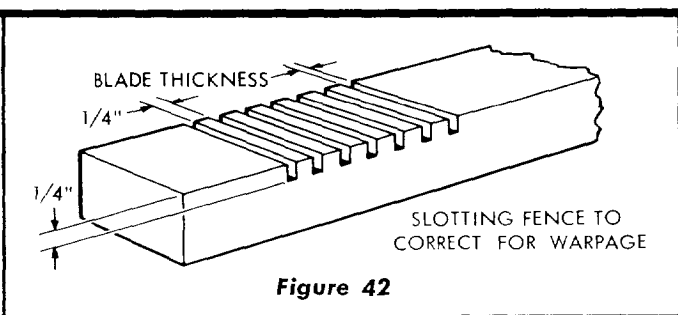

Figure 42
- a. Remove the fence and replace it with a temporary fence made from a straight piece of scrap lumber. Proceed to cut slots in the original fence where the gap between the fence and front table was determined to be the greatest. (See figure 42 for slotting arrangement.)